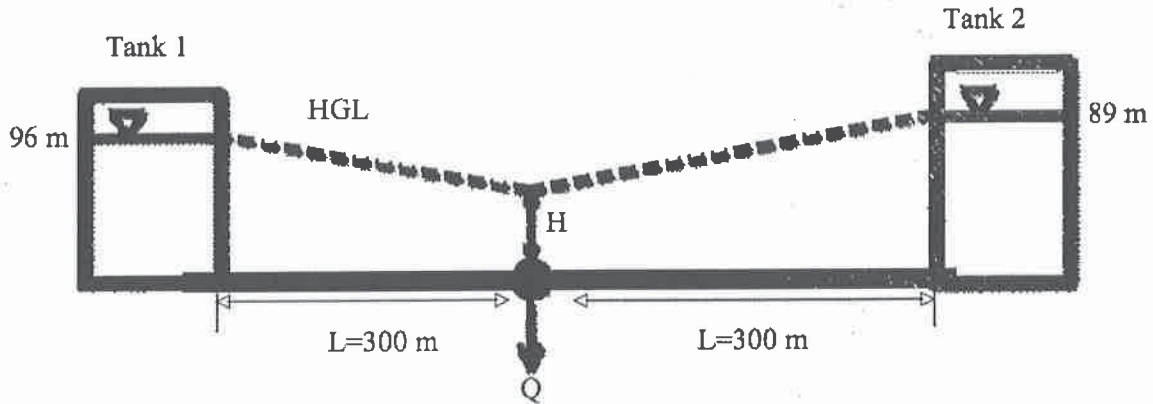

Figure 4. Water supply system.
4. Two elevated tanks supply water to a demand node with a valve at its outlet (Figure 4). The elevated tanks are cylindrical and have diameters of 5 m. The initial water level in Tank 1 is 96 m and the initial water level in Tank 2 is 89 m. The valve is half open and has a discharge coefficient of $0.15 \text{ m}^{5/2}/\text{s}$. The initial steady-state flow through the valve is 350 L/s. The valve discharges to the atmosphere. Both pipes have a Hazen-Williams 'C' factor of 110, an internal diameter of 300 mm, and a length of 300 m.